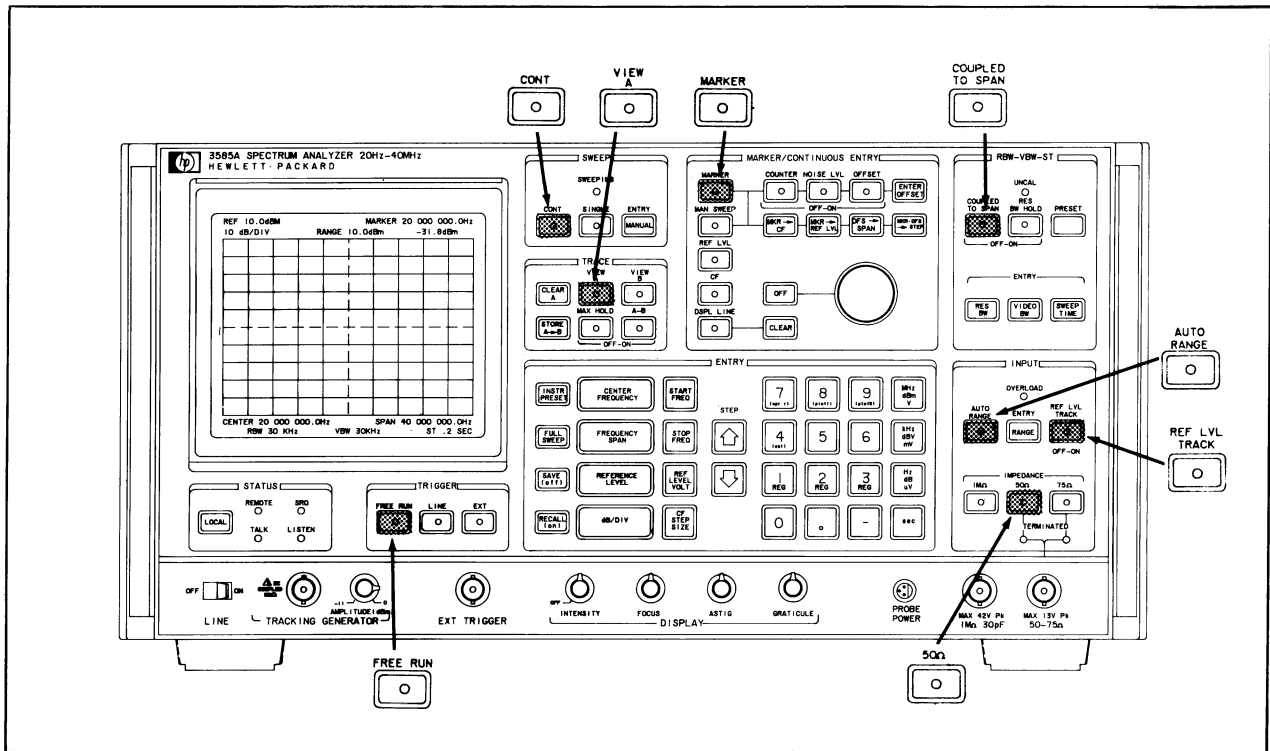

Figure 2-3. Front-Panel Functions Activated At Turn-On
- 2. Verify that the activated front-panel functions on your instrument correspond to those shown in Figure 2-3.